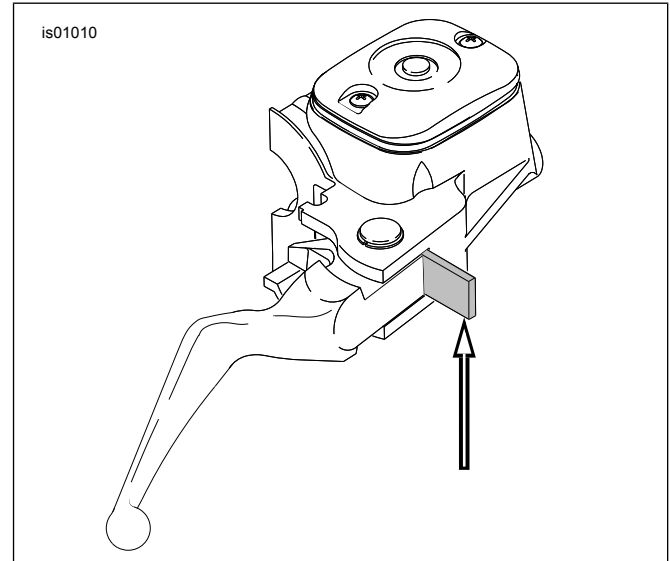

Figure 1. 5/32 in. (4 mm) Cardboard Insert
1. See Figure 1. Squeeze the brake lever and place the cardboard insert between the brake lever and lever bracket.